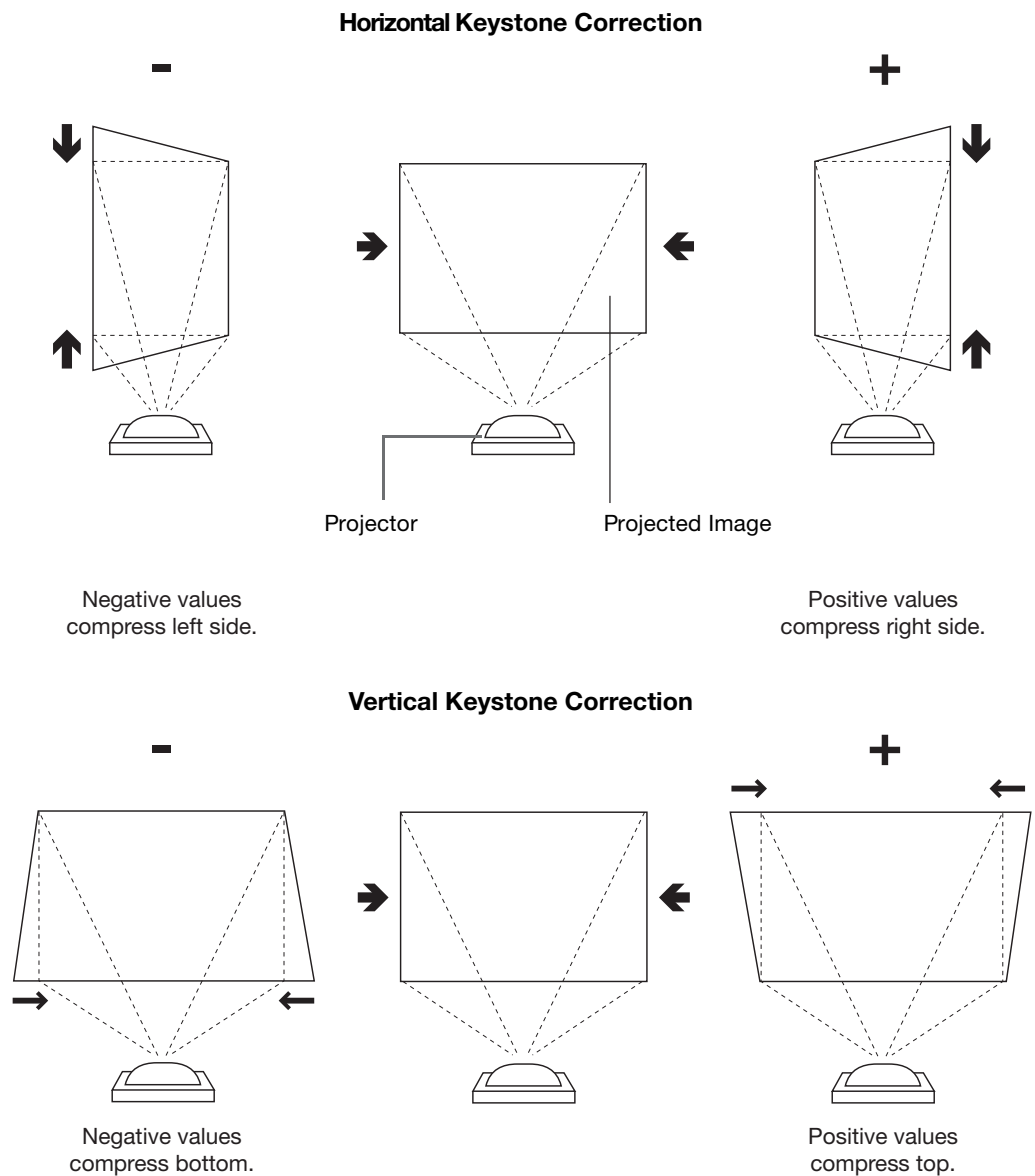

Figure 4-8. Keystone Correction
- **Installation – Horizontal Keystone/Vertical Keystone:** To correct distortion resulting from the angle of projection, select Horizontal Keystone or Vertical Keystone from the Installation menu and use the ◀ or ▶ button to make the image rectangular. See Figure 4-8.